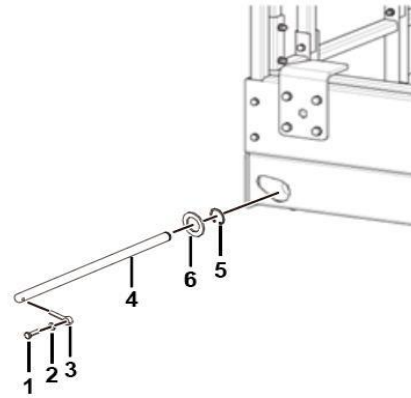

Fig. 3.2 Fork and platform connection fixing parts
5. As shown in Fig. 3.2, remove the connecting fixture between the main platform and the fork with a special tool.
9. Adjust the crane to align the rectangular tube hole of the uppermost layer of fork with the main platform hole. As shown in Fig. 3.2, use a special tool to thread pin 4, and tighten one end of the pin with bolt 1, washer 2 and pin